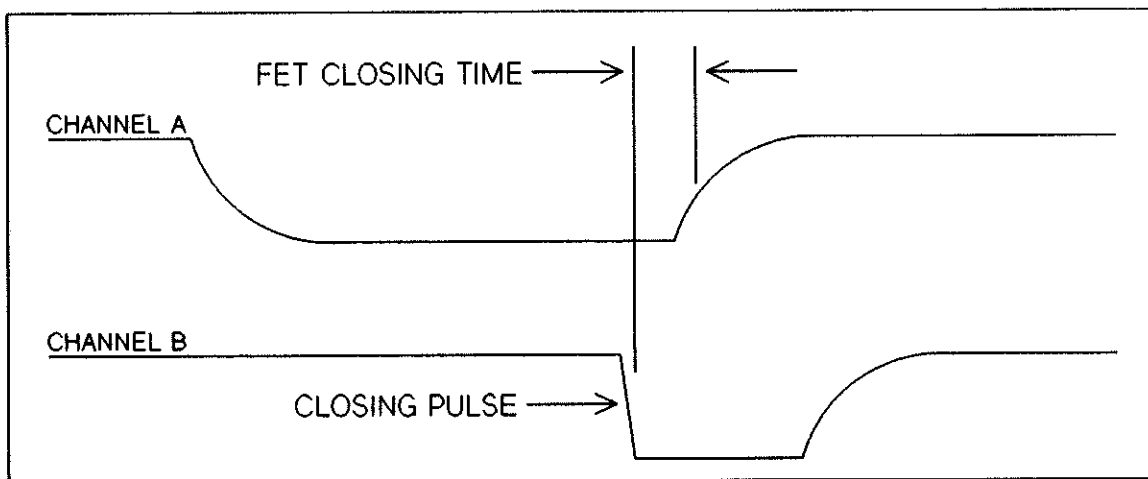

Figure 10-16 HP 44711A Closing Time
3. Rotate the DELAY SWEEP dial on the oscilloscope to the minimum position. Slowly rotate the dial clockwise until the first closing is displayed. The Channel B trace is the closing pulse output from the multiplexer. The Channel A waveform is the +5V supply, as switched by the FET channel switches. As the DELAY SWEEP dial is rotated, each channel switch and the associated CLOSING pulse will come into view. The FET closing time is the time from the falling edge of the CLOSING pulse to the rising edge of the Channel A waveform. This time must be less than 2.25 μ seconds. The closing time is illustrated in Figure 10-16.